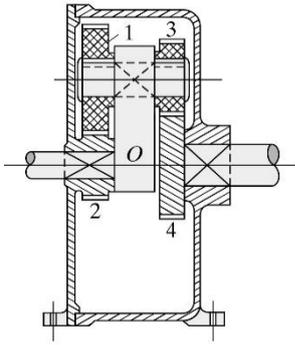

Fig.19
29. For the planetary gear train shown in Fig. 19, $N_1 = 70$, $N_2 = 30$, $N_3 = 60$, and $N_4 = 40$ teeth. If the arm is rotating at 100 rpm in a counterclockwise direction as viewed from the left, what will be the speed and direction of the rotation of the output shaft connected to gear 4?